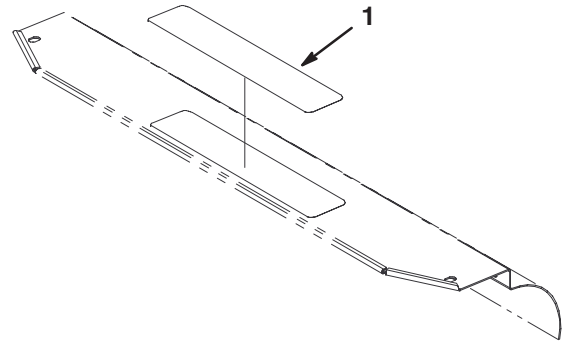

Figure 7
4. For ANSI B71.4–2004 compliance, affix the danger decal (Fig. 7) on top of existing decal on cutting unit grass shield.